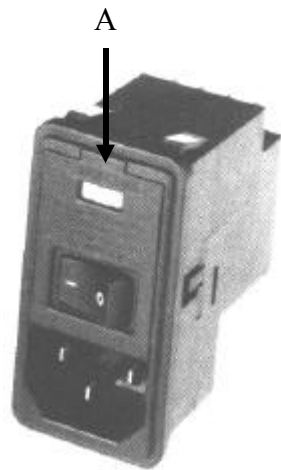
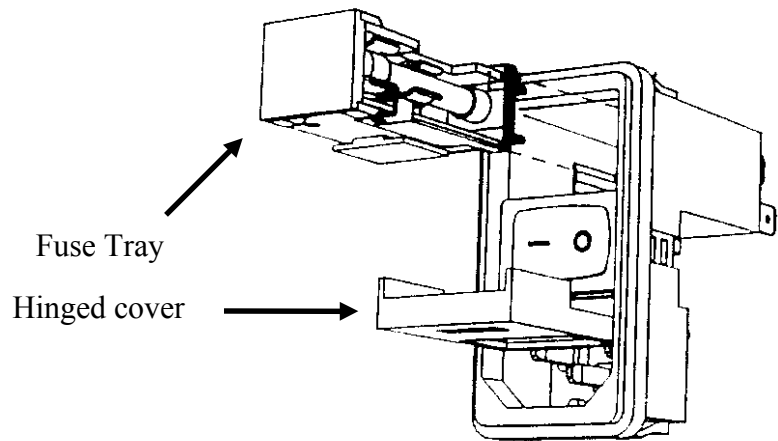

Figure 2-1
Figure 2-2
Unpack the DPM-200 pump module and check the voltage setting on the Power Entry Module (Corcom) on the back panel (see Figure 2-1). Make certain the voltage setting agrees with the power to be supplied to the unit. A module which is connected to a 100-120Vac voltage source should have a voltage setting of "115V", and a module connected to a 220-240Vac voltage source should have a voltage setting of "230V". The pump can be ordered with either of the two voltage configurations.
1. Remove the power cord from the power entry module (see Figure 2-1) located in the rear of the pump.
2. Using a small, flat-blade screwdriver, carefully pry out the power entry module cover at point A, Figure 2-1. The hinged cover will swing down as shown in Figure 2-2.
3. Using a small, flat-blade screwdriver, carefully pry out at the top of the fuse tray and carefully remove the tray as illustrated in Figure 2-2.
6. With the two proper fuses in the tray, orient the tray with the two fuses at the sides and the **230V marking at the top**, as shown in Figure 2-2, and insert it with the metal tabs first into the top of the power entry module until it is firmly seated in place. It may be necessary to squeeze the two fuses at the rear to permit them to enter the power module housing. Close the power entry module cover by pressing at the top center until it snaps into place. Insert a suitable 230V power cord.
1. Remove the power cord from the power entry module (see Figure 2-1) located in the rear of the pump; pry out the power entry module cover at point A, Figure 2-1; pry out at the top of the fuse tray and carefully remove the tray as illustrated in Figure 2-2.
3. Orient the tray with the fuse at the side and the **115V marking at the top**, as shown in Figure 2-2, and insert it with the metal tabs first into the top of the power entry